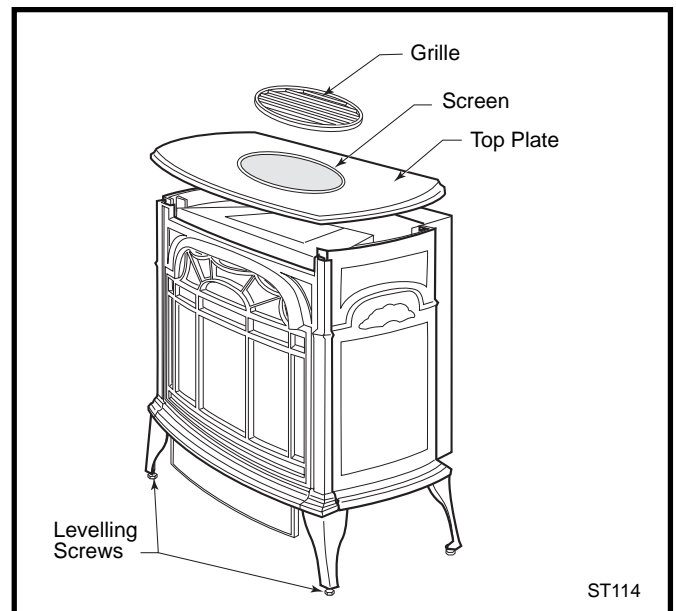

**Fig. 26** Engage the Hearthmount Front with the notch in the base of each side plate.
**On the Pinnacle**, the front tabs will engage behind the notched cutouts in the base of either side plate. (Fig. 26)